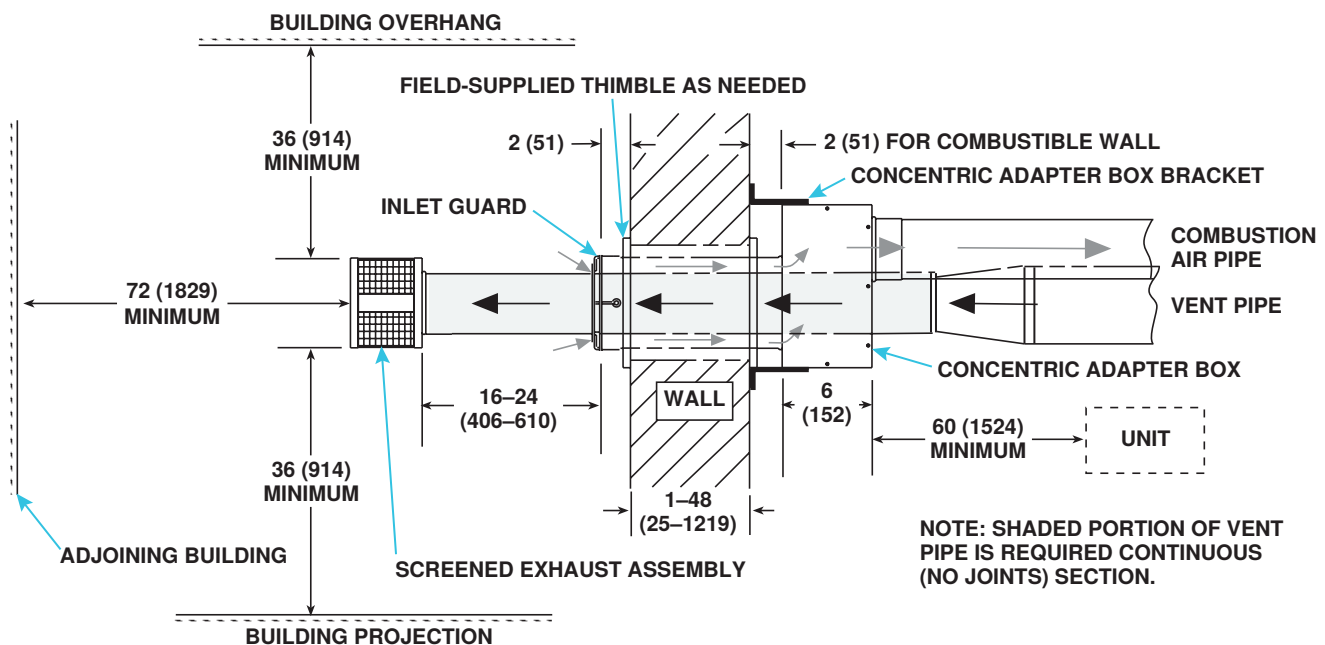

Figure 24. Option CC6 Installation
4. Secure longer angles on concentric adapter box brackets (see Figure 24) to concentric adapter box.
5. Connect outside section of combustion air pipe to concentric adapter box (see Figure 24):
6. Secure concentric adapter box to wall (see Figure 24):
- a. Position inlet guard over end of combustion air pipe in accordance with Figure 24.
- a. Refer to Figure 24 to determine lengths of each pipe segment and to calculate total length required. Transition to single-wall or Category III vent pipe run must be made maximum of 6 inches (152 mm) from heater side of box.
- d. Ensure that screened exhaust assembly is aligned so that its baffles are positioned at 12, 3, 6, and 9 o'clock (see Figure 24). Install screened exhaust in accordance with Figure 10.
10. Verify compliance with Figure 24 and with all specific venting requirements listed above.